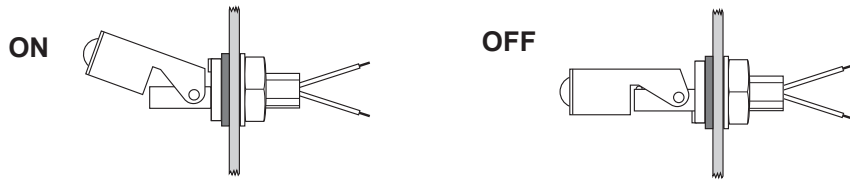

Figure 6. Mini float switch on and off positions.
4. Place the mini float switch into position with the activation arm located in the upwards position as shown in Figure 6.